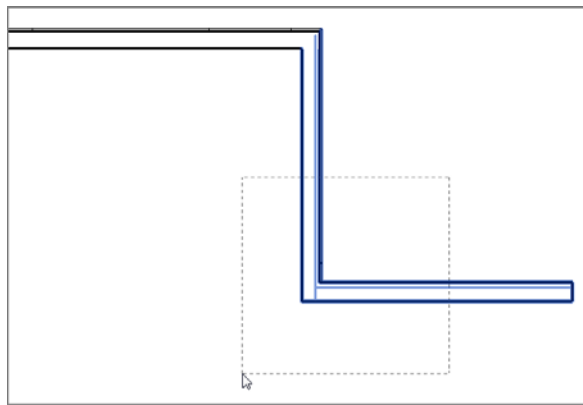

FIGURE 1.22: Using a crossing window to select two walls
3. You see a window start to form. Run that selection window down and to the left past the two walls. After you highlight the walls, as shown in Figure 1.22, let go of the mouse button, and you've selected the walls.
A *crossing window* is an object-selection method in which you select objects by placing a window that crosses through the objects. A crossing window always starts from the right and ends to the left. When you place a crossing window, it's represented by a dashed-line composition (as you saw in Figure 1.22).